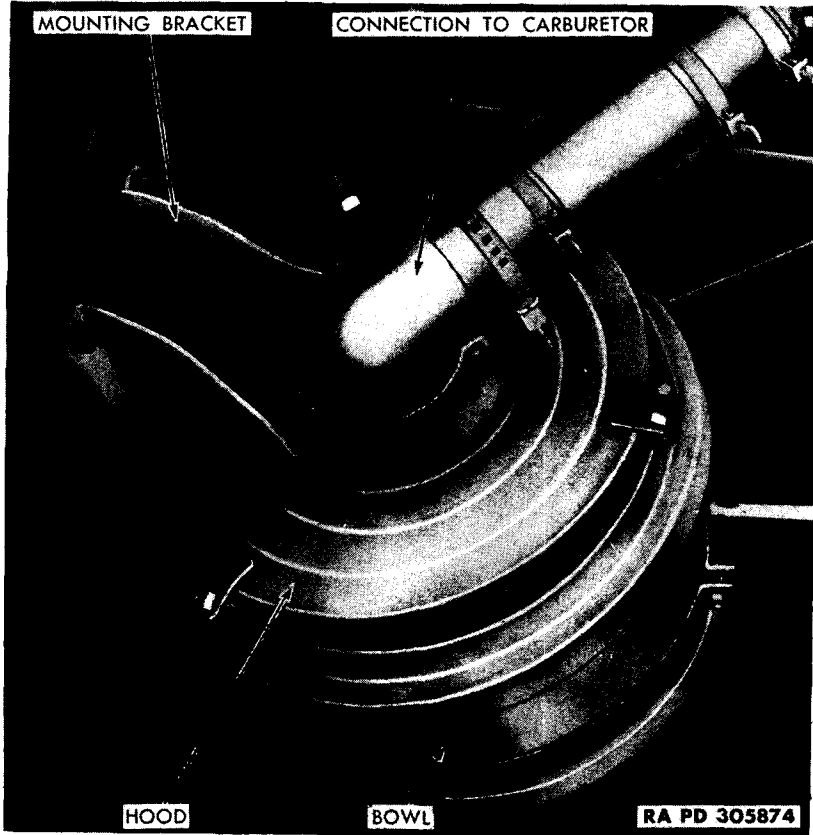

Figure 49—Air Cleaner Installed
g. **Install Air Cleaner Assembly** (fig. 49). Place air cleaner bowl assembly bracket in position on four bolts on dash. Install lock washers and bolts on these and tighten. Insert clamp ring bolts through dash and secure with lock washers and nuts on inside of cab. Install and tighten four stud nuts holding air intake to carburetor.
a. Description (fig. 49). The air cleaner, mounted on the right upper cowl (under the hood), is an oil-bath and screen type, and is connected to the carburetor with a flexible hose.